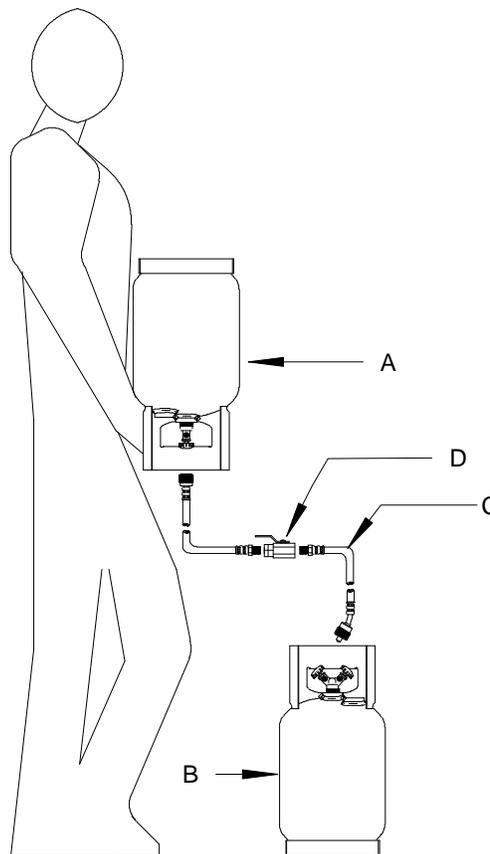

FIGURE 4 CHARGING TANK
1. Be sure Recovery Tank valves (B) are closed. Refer to FIGURE 4
3. Disconnect and **Re-Oil** both the seals on Yellow hose (C). Connect the long side of the Yellow Hose to the Virgin Tank (A).
4. Connect the short side of the Yellow Hose to the Red Valve on the Recovery Tank (B).
6. Raise the Virgin Tank to a higher level than the Recovery Tank. Invert the Virgin Tank (A) and open valve.
7. Open Hand Valve (D) on the Yellow Hose to allow the refrigerant to flow. Gravity and vacuum will transfer the liquid refrigerant to the Recovery Tank faster than reclaiming it.